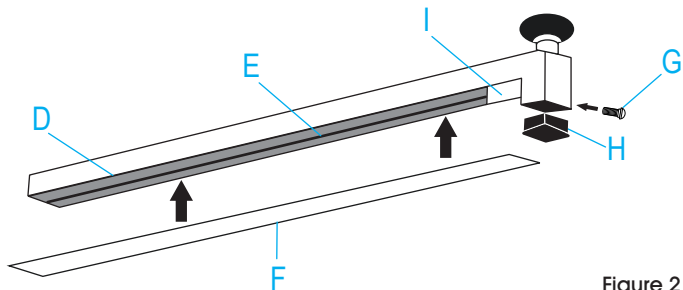

Figure 2
5. Remove worn tape from flexboard (D) on bottom of sealing arm. (See Figure 2)
7. Locate and remove black plastic screw (G) on right side, under the handle of the sealing arm. Remove black plastic end cap (H). Remove white plastic insulator sleeve (I). (See figure 2)
11. Remove the nichrome sealing wire (E). Hook the new wire under screw and tighten. Ensure new wire is properly aligned.
15. Replace end cap (H) and tighten screw (G).
16. Clean flexboard (D) with rubbing alcohol. Apply light brown Teflon tape (F) to flexboard, make sure it is properly adhered. (See Figure 2)